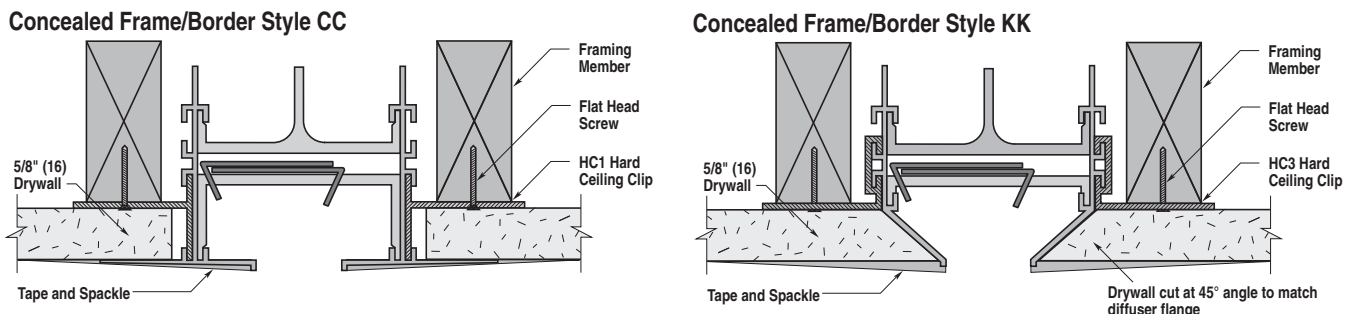

Figure 9. Depictions of frame C and K hard ceiling installations.
- B. For Concealed Tapered Frame/Border Styles C and K (see Figure 9).
- b. Spacers are factory installed with integral hanger brackets at maximum 24" (610) centers.
- c. Insert appropriate hard ceiling (HC) clips into the diffuser's lower outside rail niches at maximum 12" (305) centers.
**Note:** Leave a 1/8" (3) gap to allow for thermal expansion between sections longer than 12 feet (3658).
- C. For Frame/Border Style C (See Figure 9)
- b. Secure with min. 1 1/4" (32) drywall screws through the drywall and into the ceiling framework just outside tapered border flange at maximum 12" (305) centers.
- D. For Frame/Border Style K (See Figure 9)
- b. Secure with min. 1 1/4" (32) drywall screws through the drywall and into the ceiling framework outside beveled border at maximum 12" (305) centers.